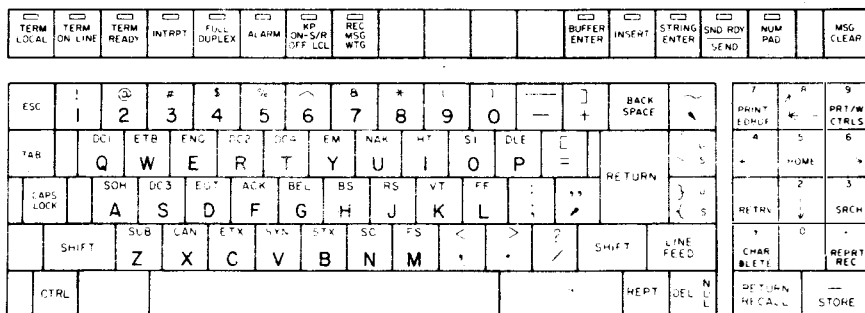

Fig. 17--Keyboard Layout
4. KEYTOP AND KEYSWITCH IDENTIFICATION (Fig. 17, 18 and 19)